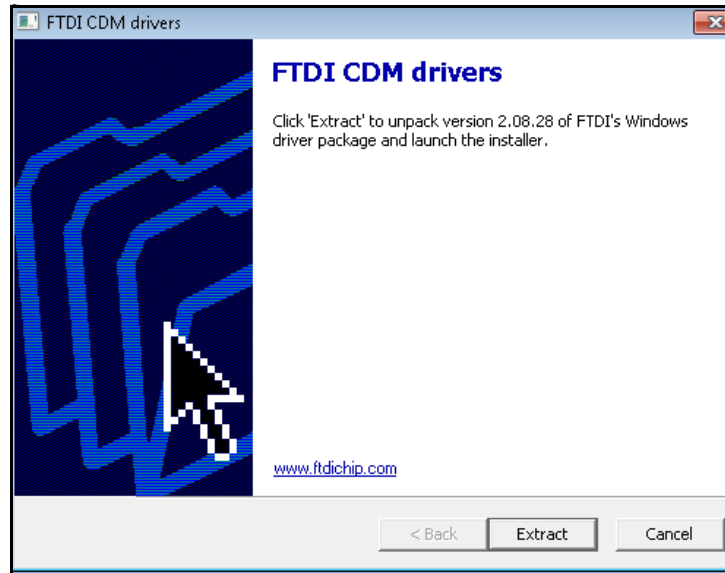

Figure 6: FTDI CDM drivers Screen
5. Click [Extract] button from dialog box (see the Figure 6 below) to extract and install FTDI CDM drivers. The PanaView may be installed by clicking on [Cancel] button if FTDI CDM drivers are already available.